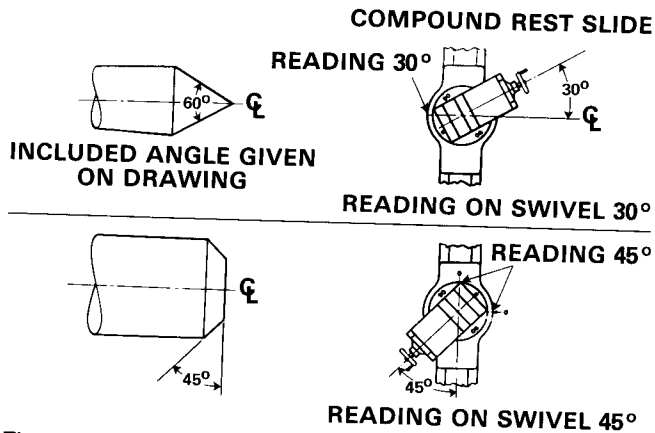

Figure 54-14 Direction to swing the compound rest for cutting various angles.
- a. Where included angles are given on a drawing, swivel the compound rest to one-half the angle (Fig. 54-14 top).
- b. Where angles are given on one side only (Fig. 54-14 bottom), swivel the compound rest to that angle.